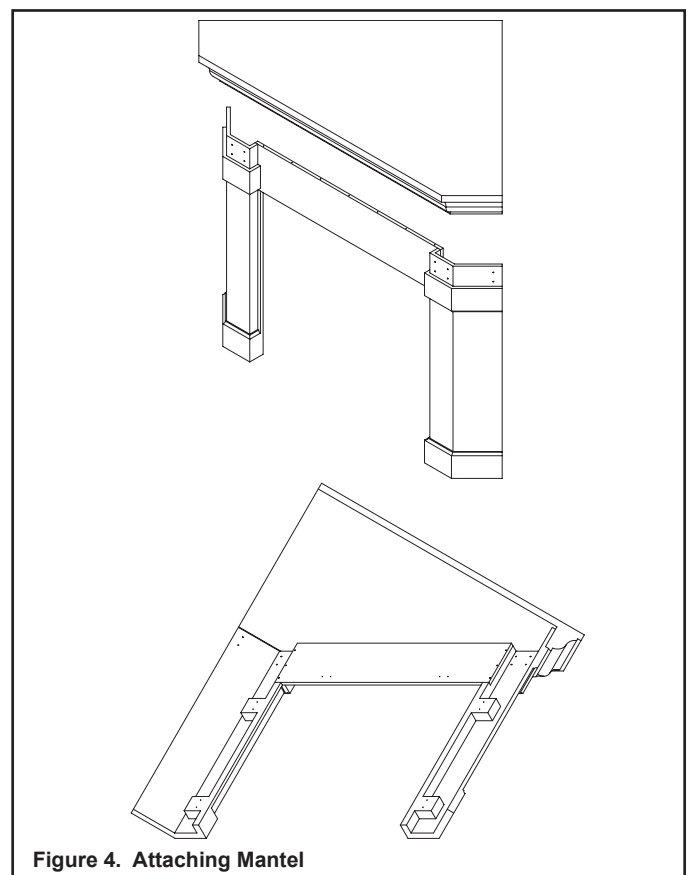

Figure 4. Attaching Mantel
6. Have someone hold the front and legs from the front, and set the mantel top into location. Attach the mantel top. See figure 4.